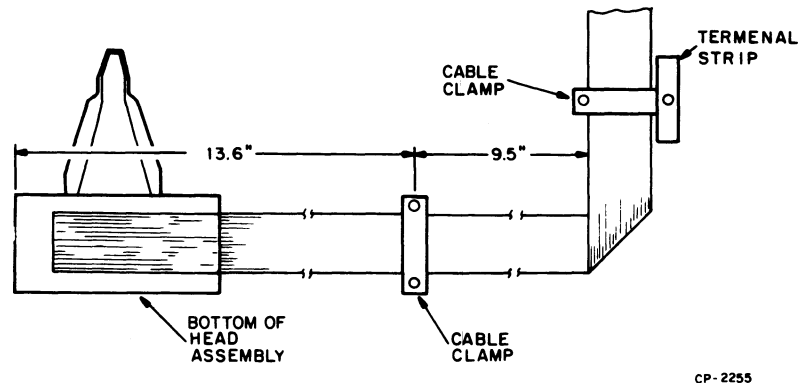

Figure 7-5 Print Head Cable
6. Remove the four (4-40) screws and kep nuts that secure the two ribbon cable clamps to the cabinet base (Figure 7-5).
1. Dress the print head ribbon cable as shown in Figure 7-5 and secure the two ribbon cable clamps and terminal strip to the cabinet base with the four (4-40) screws and lockwashers.
8. Set the alignment gauge on the extreme left side of the carriage shafts and zero the gauge by rotating the gauge bezel (Figure 7-5).